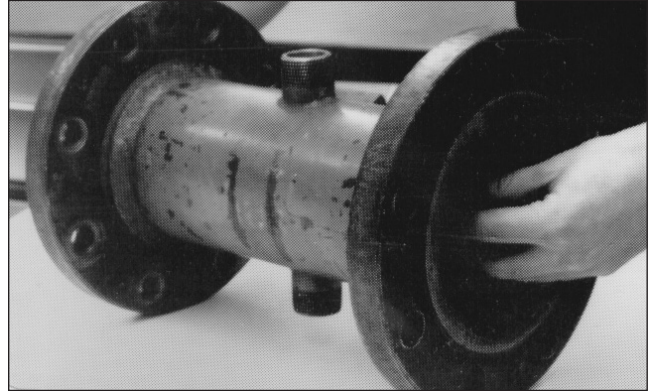

Figure 18
10. Place turbine meter in horizontal position, Figure 18. Hold either up or downstream stator and move internal laterally. Assembly should move approximately 0.010" to 0.032". If assembly has lateral movement or end play, this indicates platform bearing is securely locked in place.